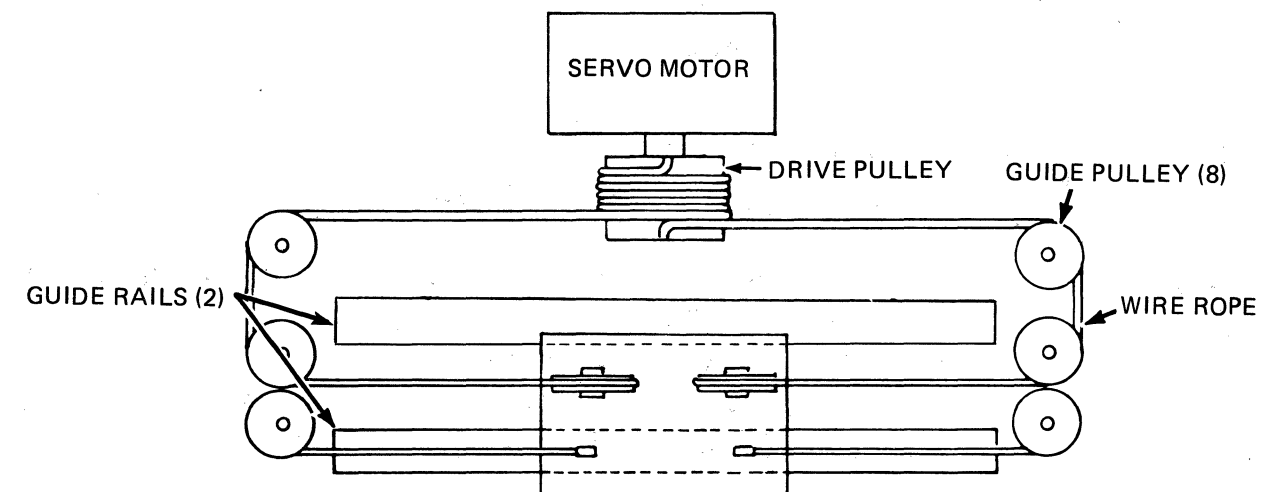

Figure 1-4 Print Carriage
The print thimble, print hammer, rotate servo motor, and rotary solenoid are mounted on a mechanical assembly called the print carriage assembly (see Figure 1-4). Also mounted on the print carriage are the ribbon cartridge, a stepping motor to drive the ribbon feed, a solenoid to lift the ribbon for color change, and an end-of-ribbon sensor. The carriage assembly travels the width of the printer chassis on two guide rails that are parallel to the axis of the platen. A flexible cable transmits commands from the control electronics to the print carriage motors and solenoids. A Hall Effect sensor mounted underneath the print carriage senses the extreme left or right positions by detecting the left or right emergency (EM) plates. The left plate is used to establish the carriage home position (first print position).